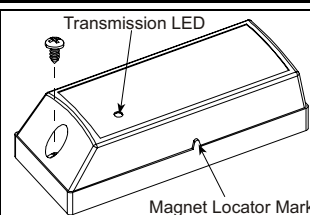

Figure 3. Removing the Case Closure Screw
- A. Remove the case enclosure screw (Figure 3).